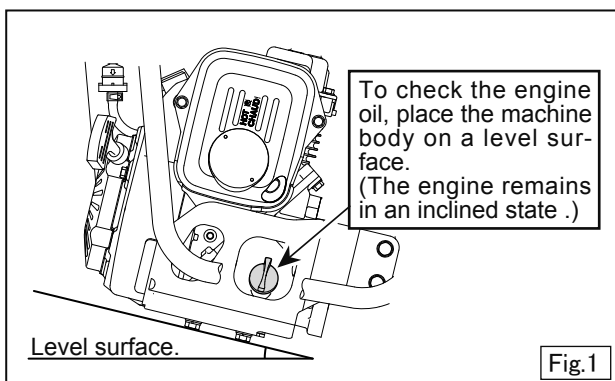

Fig.1
3. To check the engine oil, place the machine body on a level surface and then tilt it forward. (Fig.1)